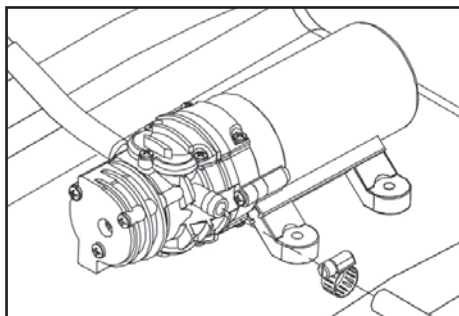

FIG. 3
9.3 ATTACH GUN HOSE TO PUMP – FIGS. 3 & 4